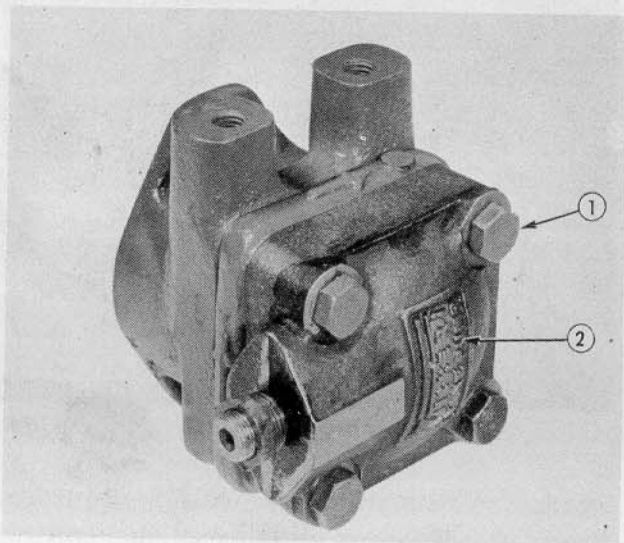

Fig. 28
Step 2—Remove the 4 cap screws, (1—Fig. 28) and remove the cover plate (2).